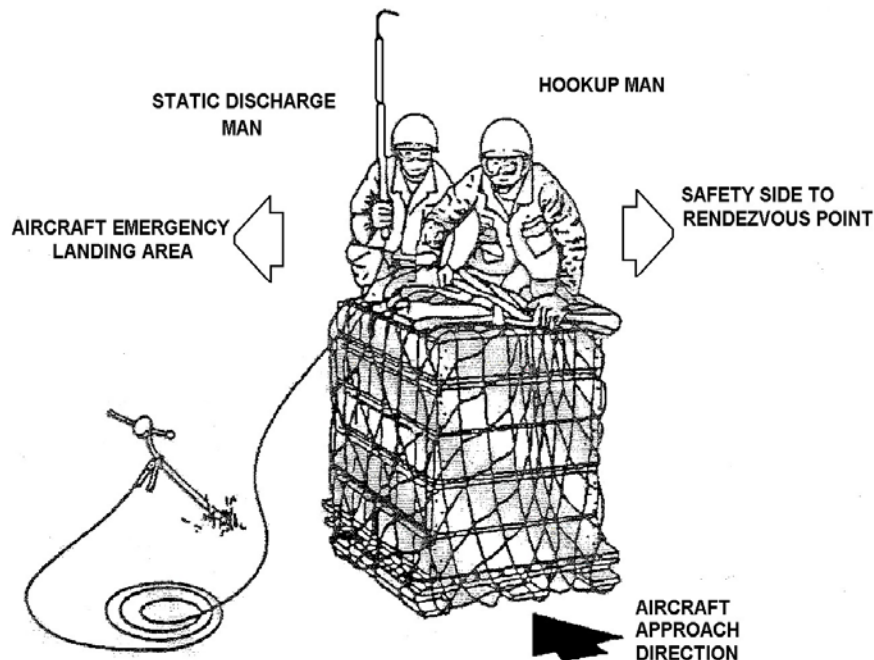

Figure 3-146
- c. Direct the static discharge man to position himself on or near the load (see Figure 3-146).